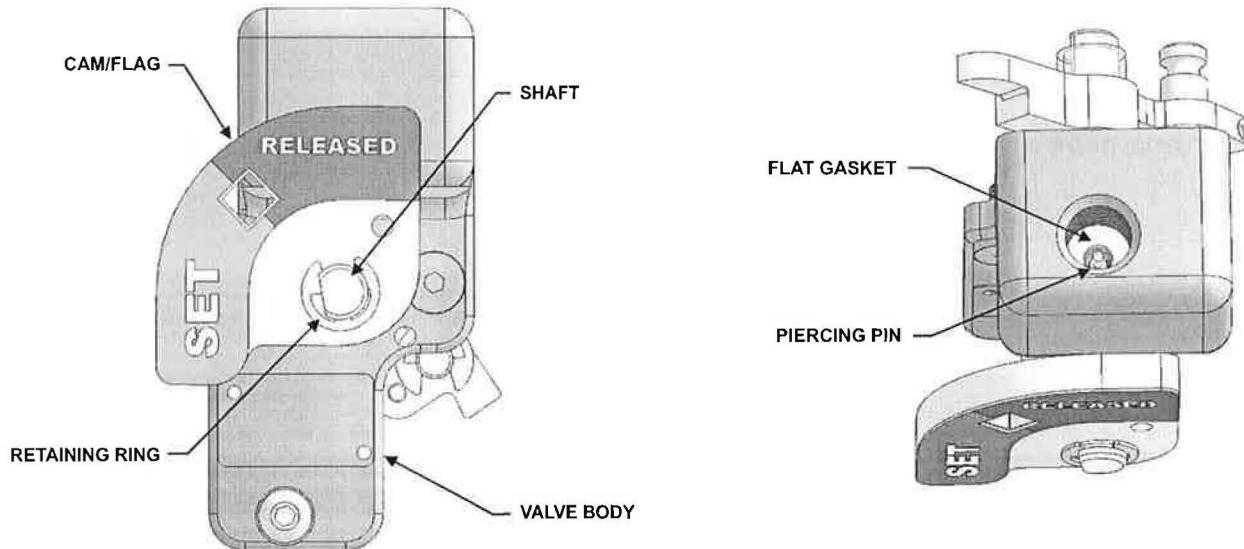

Figure 5-28. Valve Body with Piercing Pin Shown
Refer to Figure 5-28 when performing the service operation.
3. Carefully remove the retaining ring. Refer to Figure 5-28 for location.